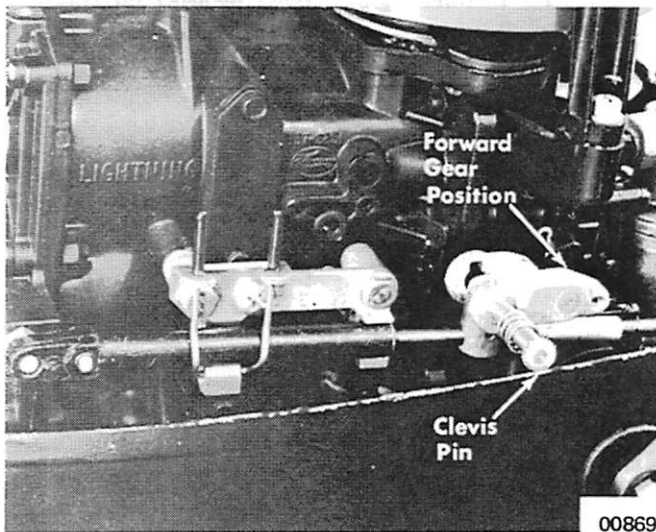

Figure 4. Shift Lever in Forward Gear
4. Move shift lever and clevis assembly (rearward) into forward gear position with spring-loaded clevis pin withdrawn as far as possible. (Figure 4)